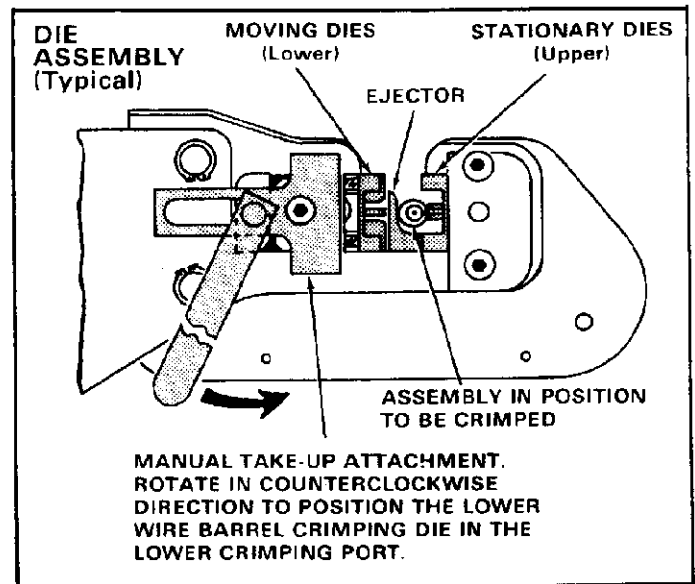

Fig. 6
B. Die Assembly Application (Figure 6)